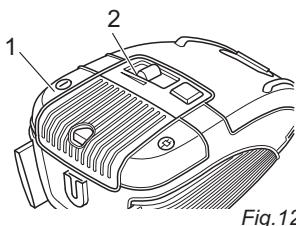

Fig. 12
3. Switch on the cylinder vacuum cleaner using the on/off switch (Fig. 12/1).
4. Turn on the suction using the suction controller (Fig. 12/2).